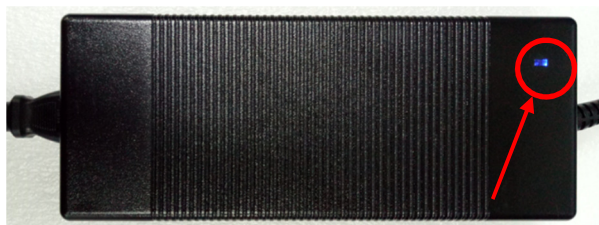

Figure 4: Power supply is connected to AC power source.
- d Hyper E301 illuminator main power switch is indeed turned on, the power supply blue light is on (Figure 4), the display panel on the front panel of the illuminator shows the light intensity "000%", the light source switch shows "red" (Figure 3), please operate the illuminator according to section 3.3.